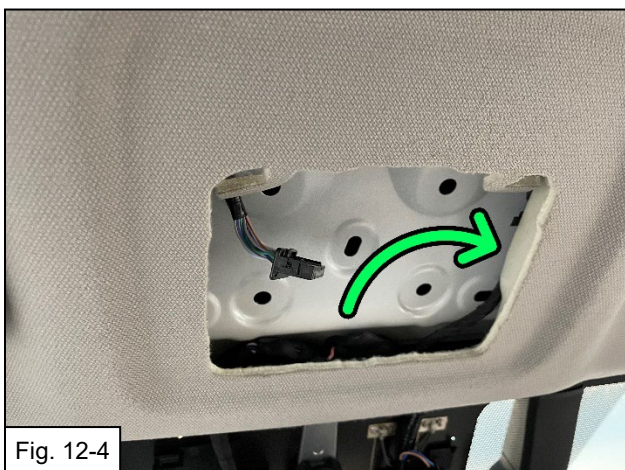

Fig. 12-4
- (d) Ensure that the connections for the console is still free to be connected and that the bundled harnesses are not obstructing the console map light connector. (Fig. 12-4)